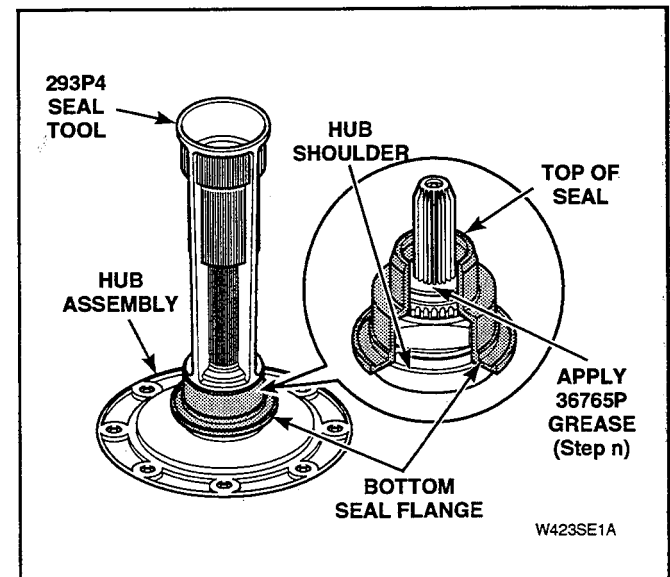

Figure 5-15
- n. Apply remainder of supplied grease, No. 36765P, to exposed surface of washer between transmission output shaft and seal. See Figure 5-15.
- p. Turn the No. 293P4 Seal Tool upside-down and place the small end over transmission output shaft and onto the seal. See Figure 5-15.
- q. Push down on tool with a quick motion until it bottoms out and the top of seal is fully seated. See Figure 5-15.